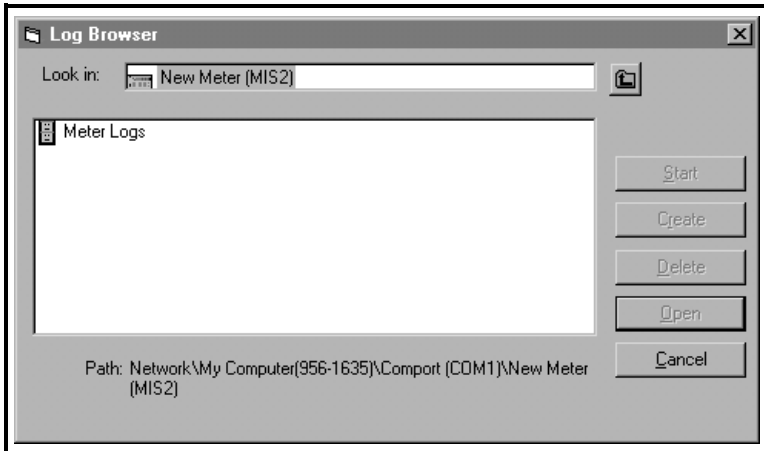

Figure 6-16: Log Type Selection
- c. Double click on the *meter name* to move to the network level shown in Figure 6-16 below.